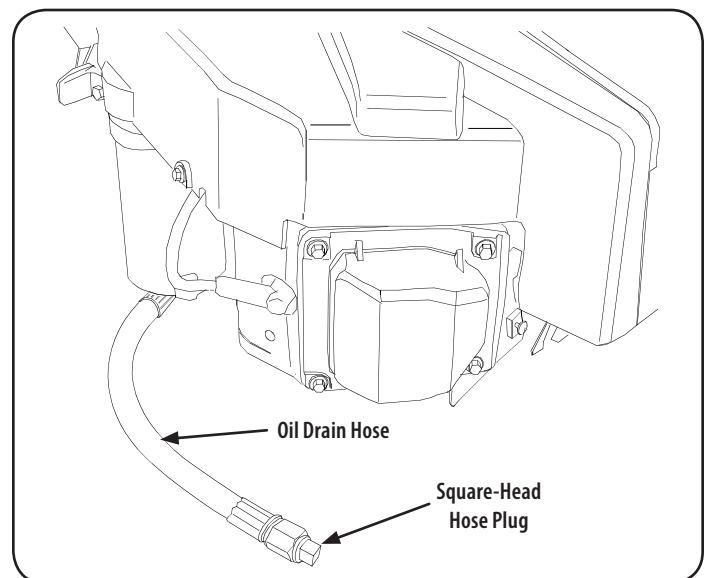

Figure 21
2. Locate the oil drain hose on the left side of the engine. See Figure 21.
4. While holding the free end of the oil drain hose over the oil collection container, unscrew the square head hose plug from the end of the hose. See Figure 21. Drain the engine oil into the collection container.